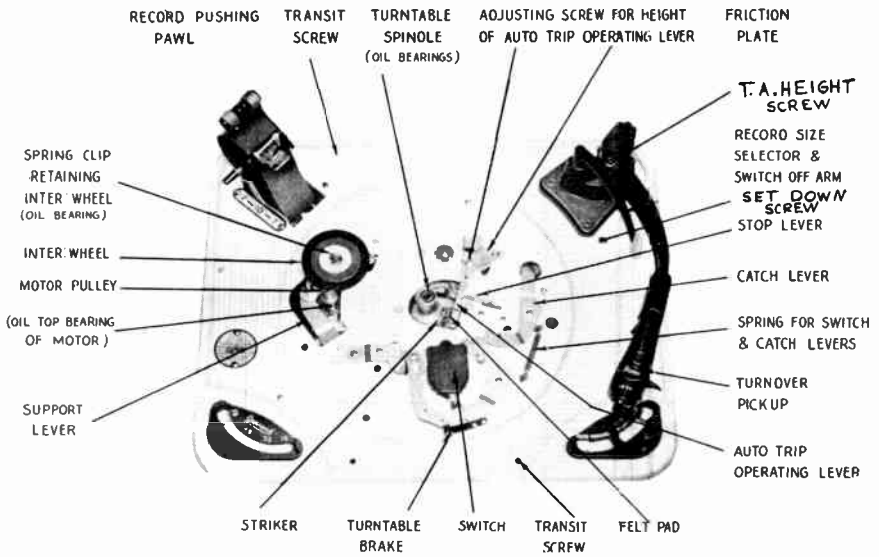

Figure G1
ADJUSTMENTS (Figures G1, G2)
- 1. Index Or Set Down:** The pickup dropping position is factory set for optimum accuracy. Should any minor adjustment be required, rotate the adjusting screw accessible through a hole in the unit plate illustrated immediately in front of pickup arm base on Figure G1, to give the correct position. Adjustment can only be made with the pickup arm on its rest. If the pickup arm has been strained beyond the scope of the previous adjustment, first set this adjustment in its centre position, then loosen the nut on the bolt clamping pickup lever. While holding the pickup lever, move pickup arm the required amount, then retighten nut. Any final fine adjustment can then be made in the normal manner. Should the pickup tend to "wander" while lowering on to a record, first check the pickup lead to ensure that it is not creating a bias on the free movement of the pickup arm. The pickup lifting pads should also be examined. The lower pad is felt and pushes against the top one which is leatheroid. The friction between these two pads holds the pickup arm steady while it is being raised or lowered, and they must be kept perfectly dry. On no account should lubrication be applied. Should one of the pads come adrift from its plate, refix with suitable adhesive. If the friction does not appear sufficient to hold the pickup arm steady, set the changer in the playing position, insert a thin rough file between the pads and rough up the surface of the leatheroid pad.
- 2. Tone Arm Height:** The distance the pickup lifts can be adjusted by turning the screw on top of pickup arm, Figure G1, with a small screwdriver. Eight 12" 78 rpm (Coarse Groove) records should be placed on the turntable and the pickup lift adjusted so that as the pickup returns to the rest on completion of the top record, the tip of the pickup stylus clears the record surface by 1/8". If found necessary, further adjustment may be obtained by turning eccentric screw 32 in lever 87, accessible underneath changer.
SERVICE HINTS (Figure G1, G2)
8. **Noise:** Should the changer become noisy when running, the cause may be dry bearings, and all points indicated on lubrication chart, Figure G1, should be lubricated with fine machine oil. All surplus oil must be carefully wiped off. If when using the large record spindle for playing 45 rpm (Fine Groove) records, a squeak is heard every revolution of the turntable, this may be due to the bearing of the lower revolving portion of the large record spindle becoming dry. Remove the spring clip on the underside of the spindle, lift off the revolving part, clean and lubricate.
9. **Rumble:** Rumble may be due to excessive bass response of the pickup and reproducer circuit, and in the cases where a crystal pickup is fitted, a reduced value of pickup load resistor should first be tried. A background of rumble may occur if the motor bearings become dry, and when this occurs, the motor should be lubricated as shown in the lubrication chart, Figure G1. Also the turntable spindle thrust bearings may need lubricating.